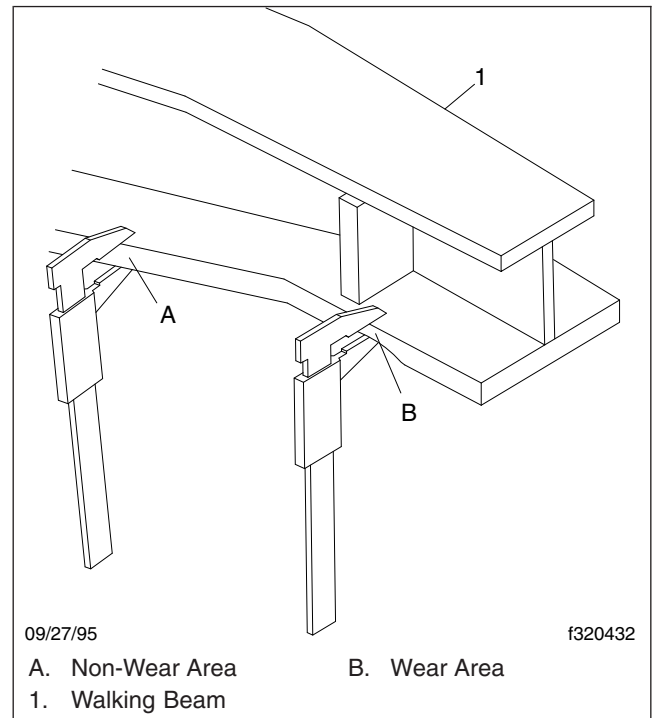

Fig. 8, Walking Beam End Wear Thickness
5. Manipulate the walking beam so that a micrometer, vernier, or dial caliper can be used to determine the wear area thickness on the bottom face. See **Fig. 8**. Measurements should be taken a minimum of 1/2 inch from the beam flange edges to eliminate any edge wear that may have occurred. Subtract the wear area thickness (see **Fig. 8**, Ref. B) from the thickness at the non-wear area (see **Fig. 8**, Ref. A) to determine the amount of wear.